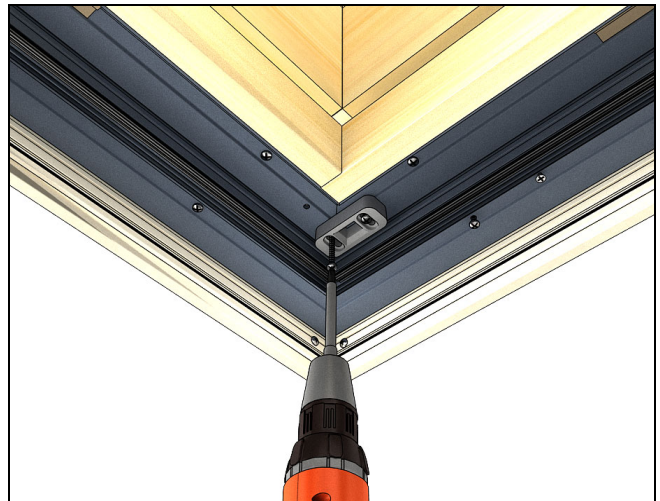

Figure 20
7. Using the pre-drilled holes on the inactive side, install the Flush Bolt Strike into the header with the #8x 3" installation screws. Square up the strike with the frame. Pre-drill in the center of the second slot and fasten into the header with #8x 3" installation screws. See Figure 20.